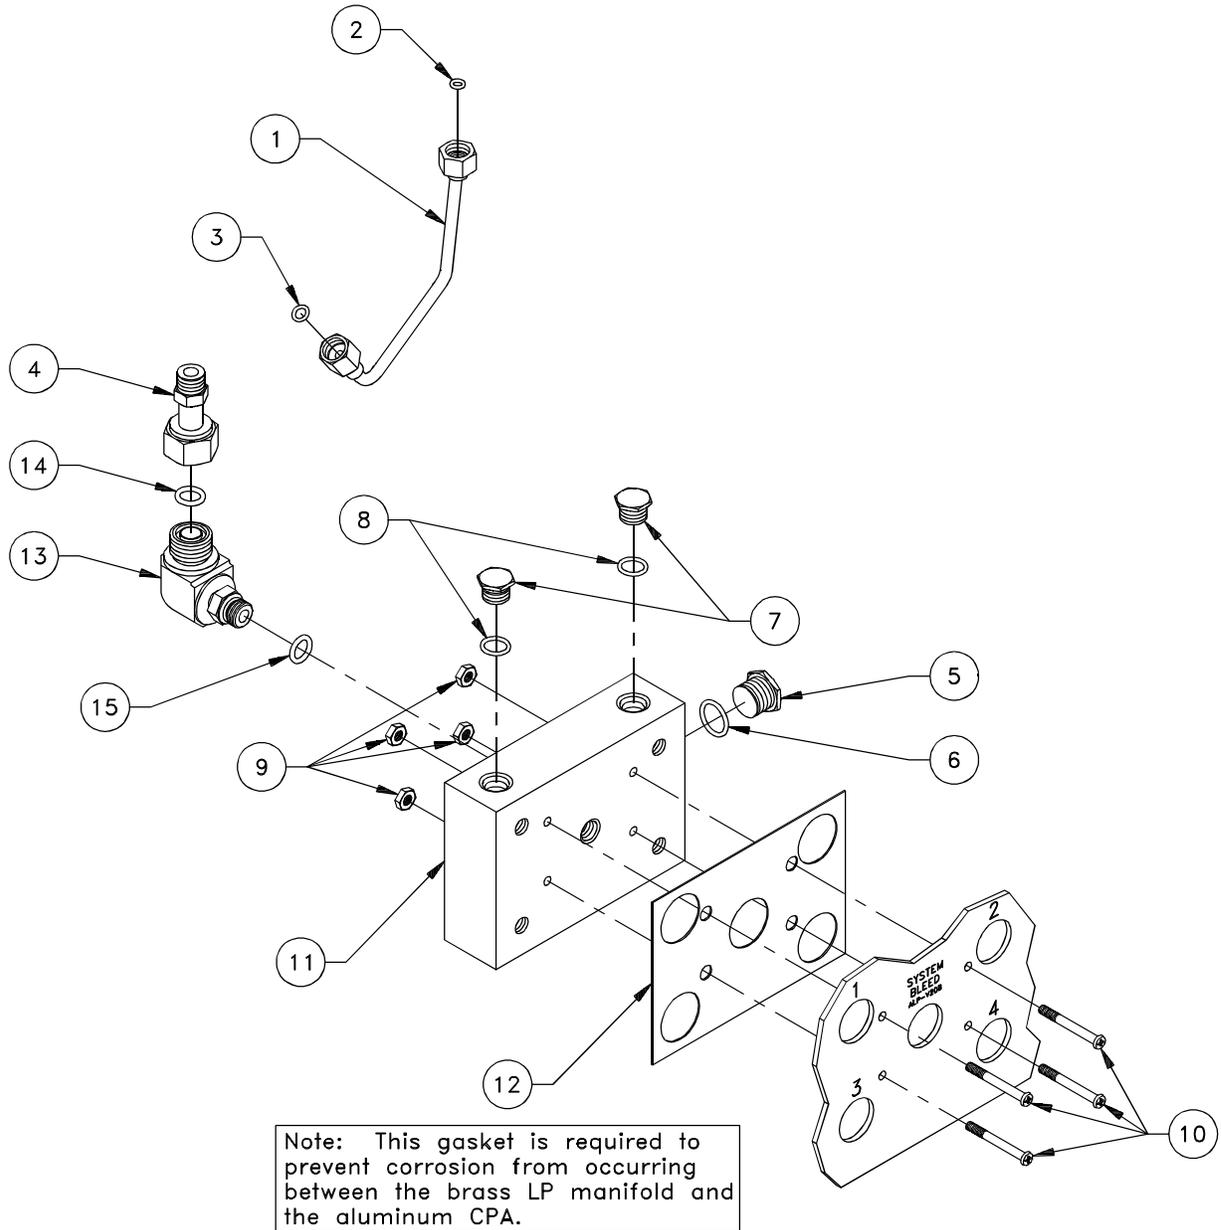

Figure 6-11. LP Manifold
6.5.2.12 LP Manifold Removal and Replacement (Figure 6-11).